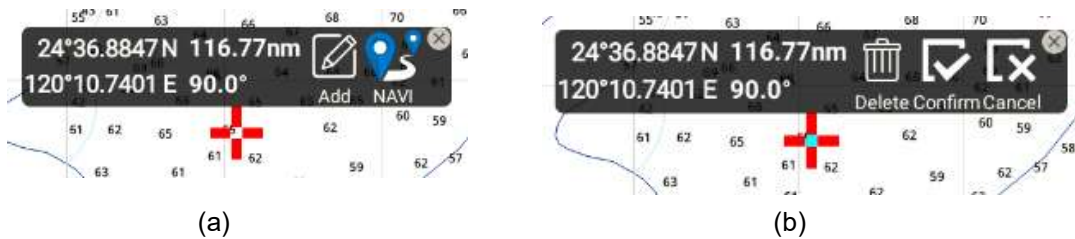

Figure 16 - Waypoint Creation.
On the chart page, long press on the map the location where you wish to create a waypoint, and the information window as shown in Figure 16 (a) will pop up. Click *Add*, and the information editing window shown in Figure 16 (b) will pop up.
3. Click **Cancel** to exit the point editing and return to Figure 16 (b).